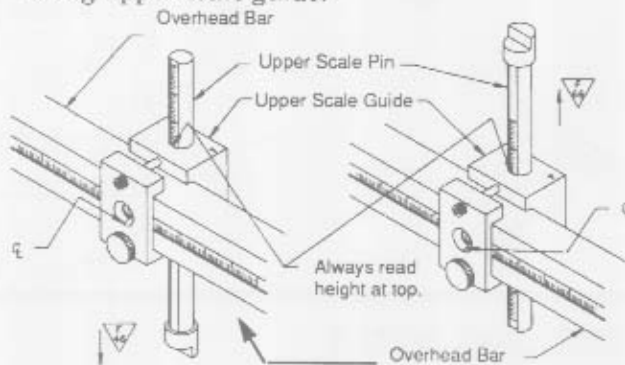

Figure 5
D. All fitting requirements for measurements taken from overhead bar are found on second line of symbols from top of page. Any time a centerline measurement appears on upper body specification sheet, it indicates use of upper scale guide and pin assembly on overhead bar, or, rigid tram assembly mounted on overhead bar. When using upper scale guide on overhead bar (without rigid tram), an upside down triangle ∇ appears. For example: ∇ . Inside the triangle is attachment to be used and reading for upper scale pin. Below triangle, and to its left, is an arrow indicating direction upper scale pin is to be inserted through upper scale guide. (See Figure 5.) The upside down triangle symbol is only used when measurements are taken directly off overhead bar using upper scale guide.